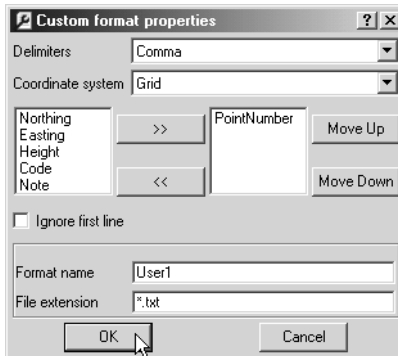

Figure 4-9. Custom Format Properties
2. In the *Custom format properties* dialog box, enter the file's parameters (Figure 4-9 on page 4-5).